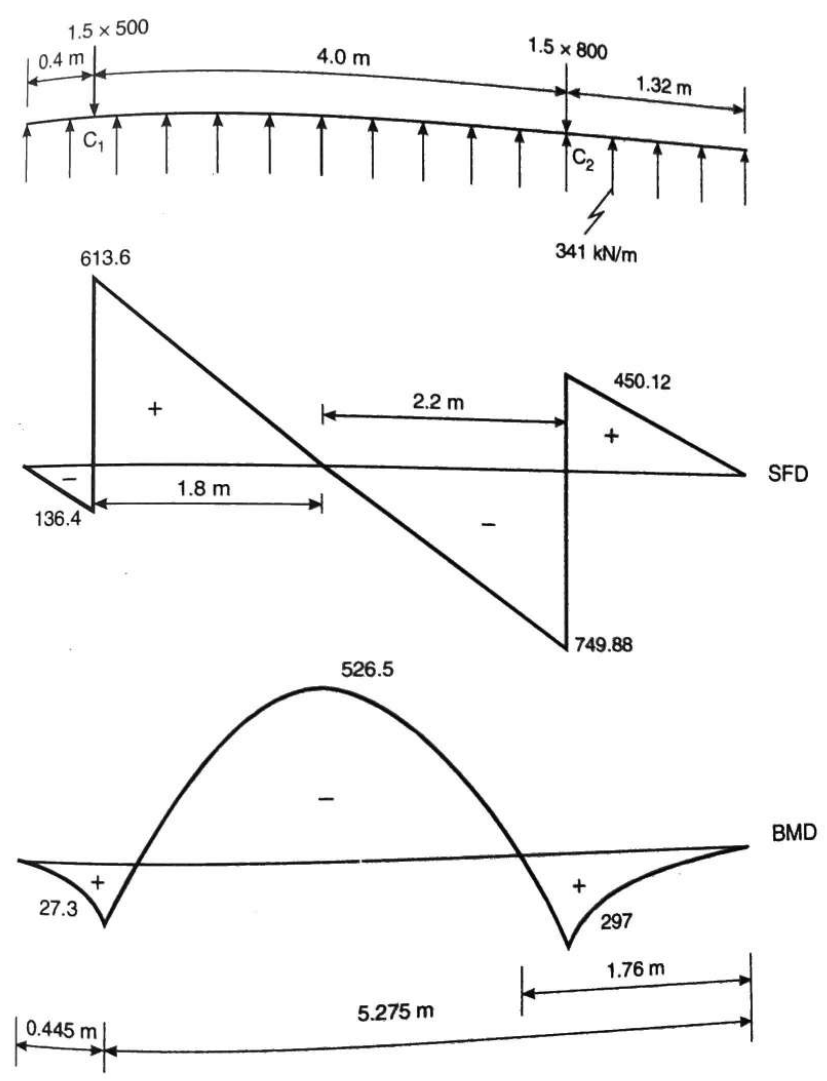

Fig. 14.31.
■ **Calculation of Moments and Shear Forces:** The Fig. 14.31 shows the loading, SFD and BMD for the slab footing.